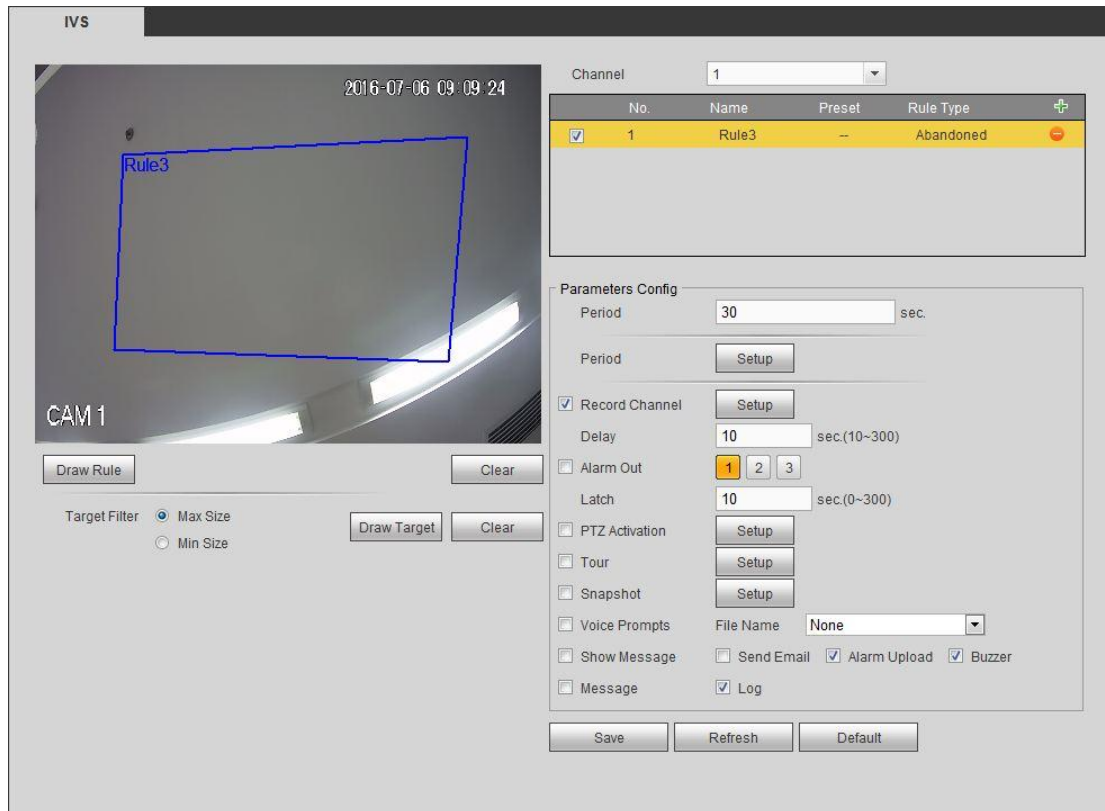

Figure 5-73
Step 3 Click Draw rule to draw the rule. See Figure 5-73. Left click mouse to draw a line, until you draw a rectangle, you can right click mouse.